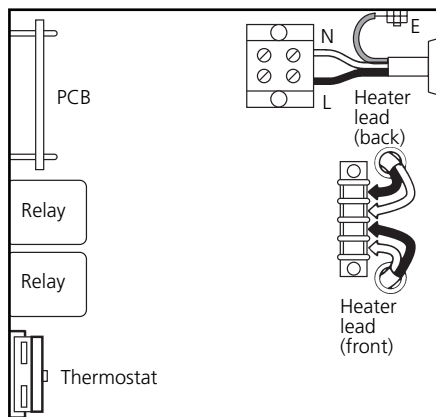

Fig 6 Terminations for A8000
- 15 The tubing assembly is also fitted with a 1 metre length of 9mm diameter vinyl tubing. Feed the free end of this tubing through the orifice, item 20, in the side of the cabinet.
- 16 Unscrew the two black plastic screwcaps, and rubber rings, from the boiler. Slide both onto the heating elements, W48H, item 28. Insert the heaters into the boiler ensuring that the ends are supported in the glass nodules of the boiler.
- 17 Pass the electric cables of the heaters up into the electrical control compartment via the available orifice. Push the spade terminals onto the correct pins of the connecting strip (refer to fig. 6).